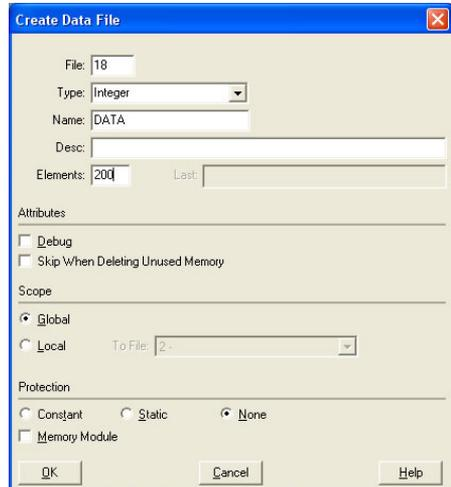

Figure 115: Creating a Data File
- c) Follow the same procedure to create a data file. This file will be used to store the incoming data read from the interface card. Enter a file number (e.g. 18), set the type to "Integer", enter a descriptive name (e.g. "DATA"), and enter a number of elements (e.g. 200). Refer to Figure 115. Click OK to create the file.